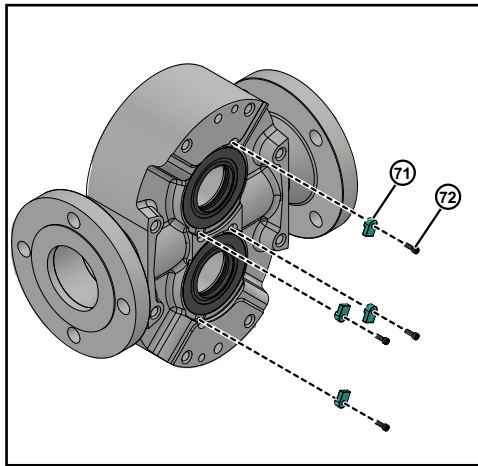

Figure 116 - Remove Screws and Retainer-tab
1. Remove all the retainer-tab bolts (72) and retainer-tabs (71) from the pump body, as shown in Figure 116. This is *applicable for model 006-130*.